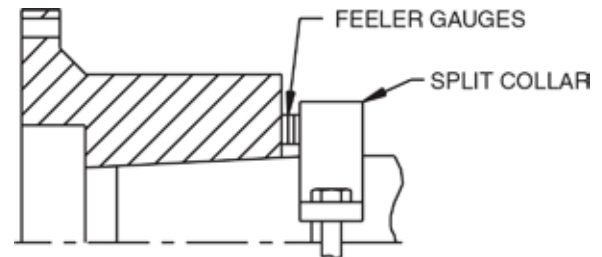
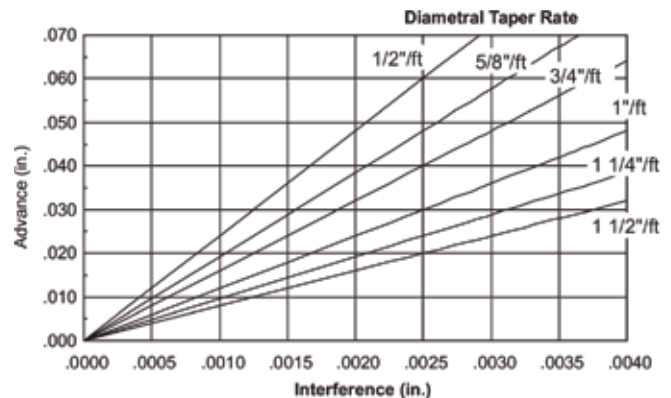

Figure 2. Using Split Collar to Set Advance
Figure 3. Hub Advance vs. Interference Chart
2.5 Tapered Bores Only: A recommended method to measure the hub advance is to install a split collar on the shaft, away from the hub by the amount of the specified advance. Use feeler gauges for accurate spacing. See Figure 2. The amount of hub advance is dependent upon the desired interference and taper angle as specified by the machine manufacturer or as given on the coupling drawing. See Figure 3.